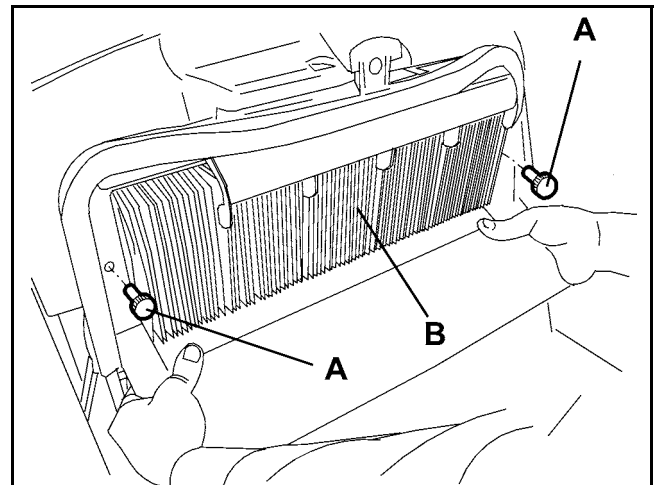

Figure 17
4. Loosen the knobs (A, Fig. 17).
5. Grasp the dust filter (B, Fig. 17) as shown in the figure.